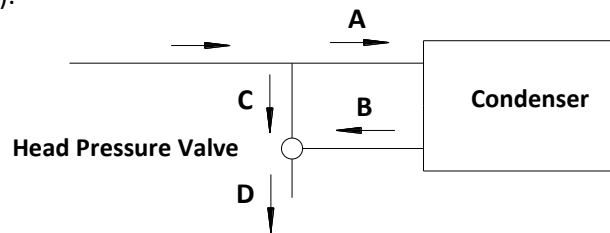
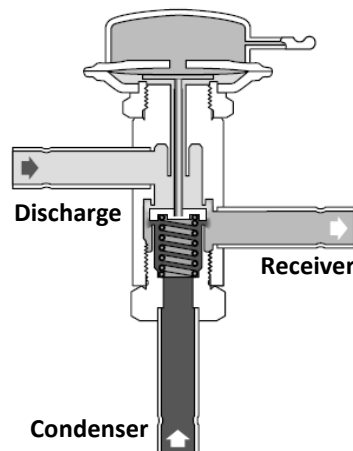

Figure 1-3 The working principle diagram of head pressure valve
Figure 1-4 The structural diagram of head pressure valve
As shown in figure 1-4, the head pressure valve is a three way modulating valve that responds to discharge pressure, connecting compressor discharge outlet, condenser outlet and receiver inlet separately. When the outdoor ambient falls, the condensing pressure falls. This causes the discharge pressure to fall as well. When the discharge pressure falls below the set value, B and C are partially opened as shown in figure 1-3. Which allows discharge gas to bypass the condenser. Mixing the discharge gas with the liquid creates a high pressure at the condenser outlet, reducing the flow and causing liquid to back up in the condenser. Flooding the condenser reduces the area available for condensing. This reduction in effective condenser surface area results in a rise in condensing pressure. During summer conditions, the discharge pressure is higher than set value thus closing the discharge port (CD). Hence, there is full liquid flow from the condenser to the receiver (BD).